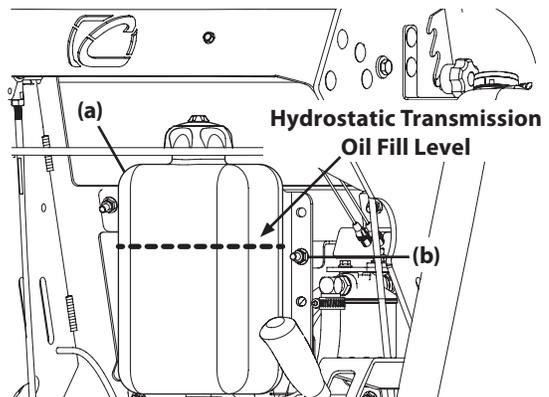

Figure 26
2. Ensure the hydrostatic transmission oil reservoir level is just above the upper reservoir mounting bolts (b) as shown in Figure 26.
- Add hydrostatic transmission oil until the level is even with the upper reservoir mounting bolts (Figure 26).